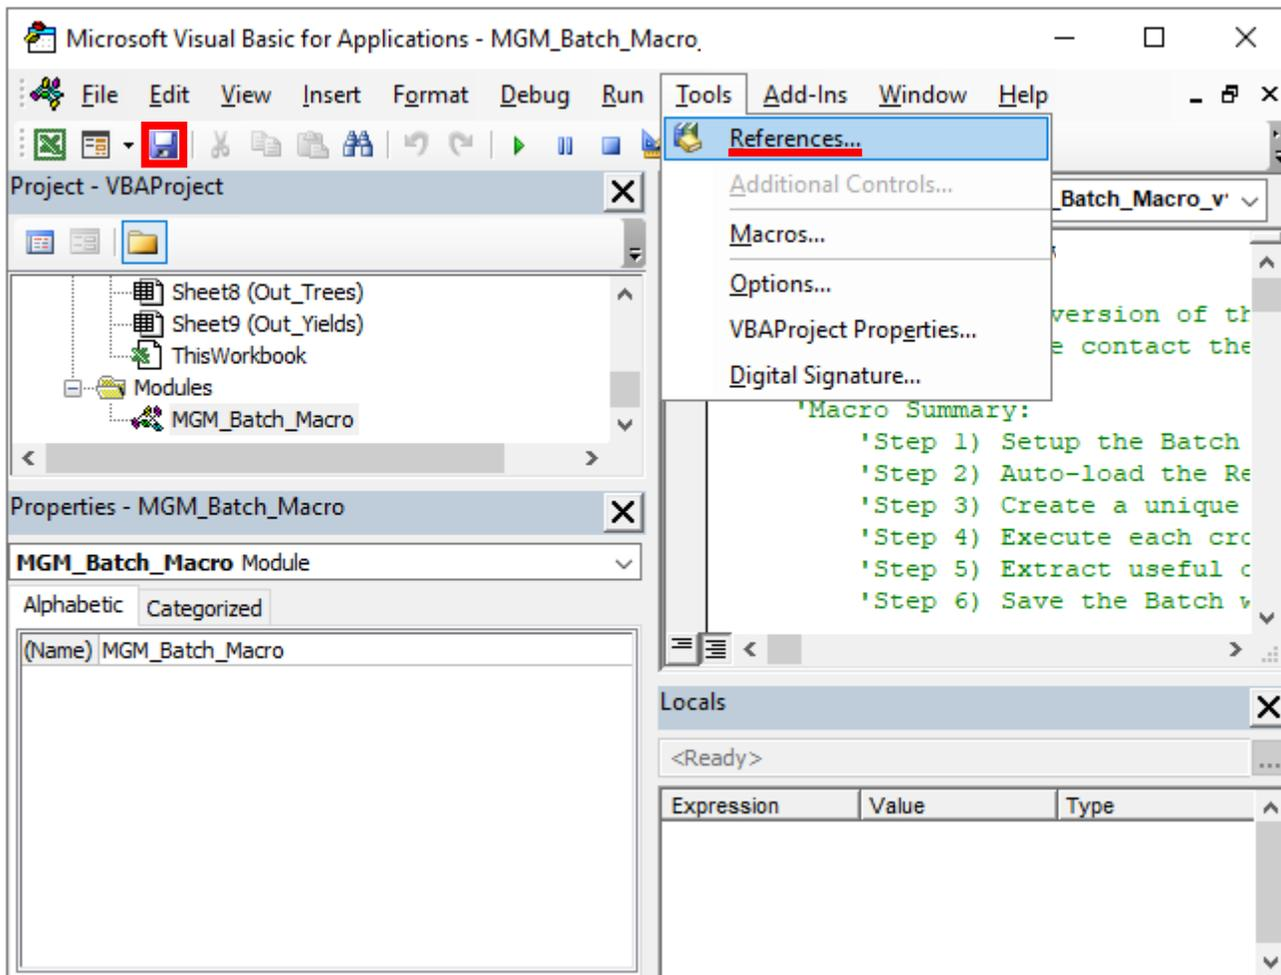
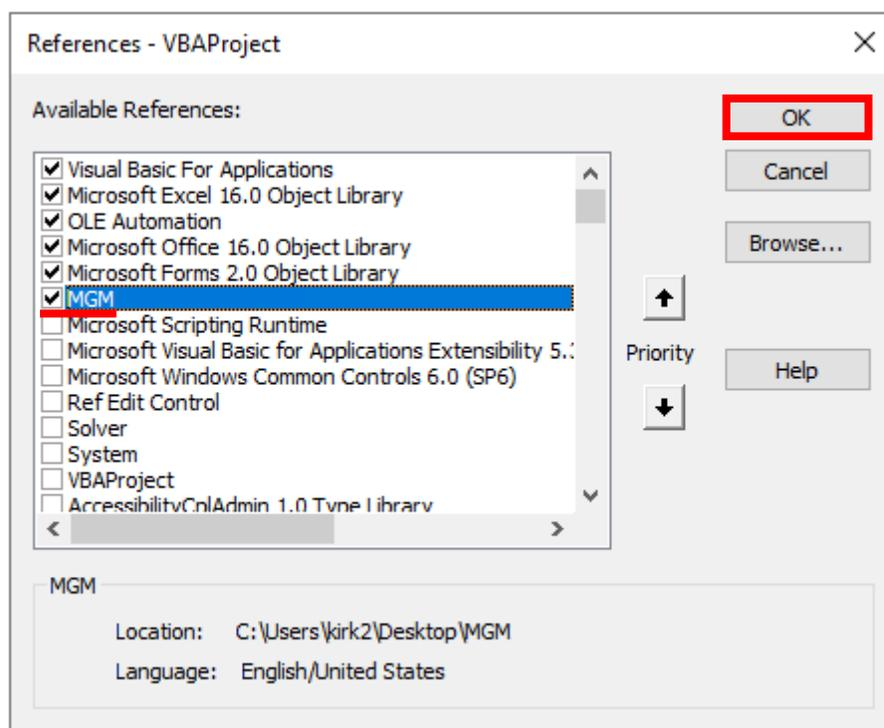

Figure 3. Open the VBA references.
Figure 4. Set the Batch Macro's VBA reference to MGM.
8. Make the “MGM21\_Batch\_Macro\_v1\_6.xlsm” workbook active. On your keyboard, enter (Alt + F11) or select the Developer tab and click on the “Visual Basic” button to bring up the “Microsoft Visual Basic for Applications” window (Figure 3). Then, select “Tools” and “References” (Figure 3). A “References-VBAProject” dialog will appear (Figure 4). Check “MGM”, and click “OK” (Figure 4). Save “MGM21\_Batch\_Macro\_v1\_6.xlsm” in the “Microsoft Visual Basic for Applications” window by clicking the “Save” icon (Figure 3) or by clicking “File” and “Save”.
9. Close the “Microsoft Visual Basic for Applications” window (Figure 3), the “MGM21\_Batch\_Macro\_v1\_6.xlsm” workbook, and the “MGM21 VS39 Rev 6xxx - My Working Copy.xlsm” workbook.